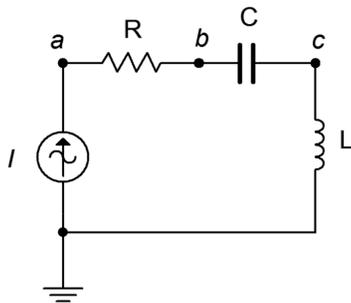

Figure 2.27
45. For the circuit of Figure 2.27, determine the voltages across each component. The source is a 50 mA peak sine at 15 kHz,  $R = 200 \Omega$ ,  $C = 100 \text{ nF}$  and  $L = 1.5 \text{ mH}$ .